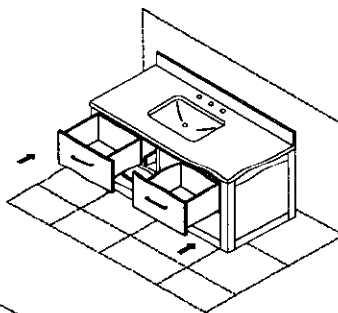

Figure 8
- To secure the drawer, close until a series of clicks are heard. See Figure 8.